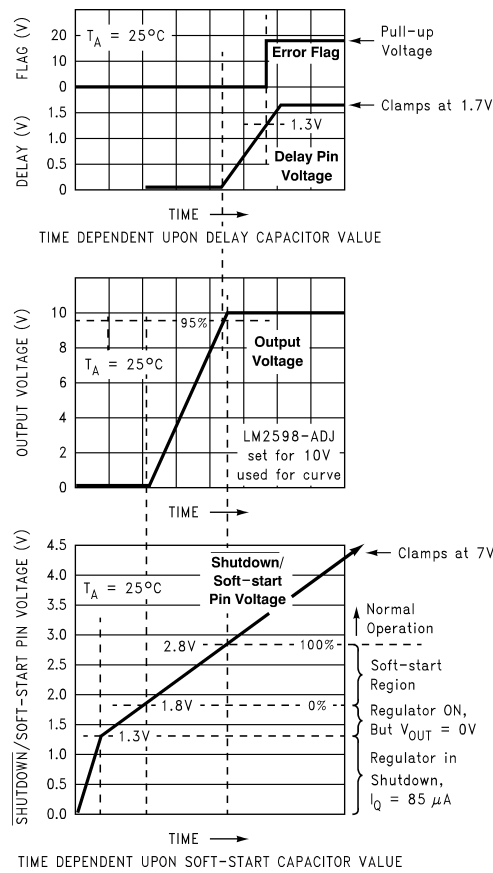
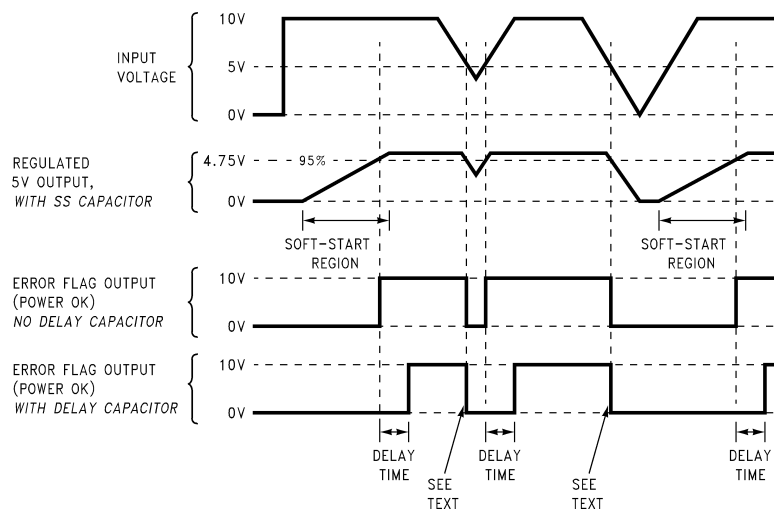

Figure 28. Soft-start, Delay, Error, Output
Figure 29. Timing Diagram for 5-V Output
A capacitor on this pin provides the regulator with a Soft-start feature (slow start-up). When the DC input voltage is first applied to the regulator, or when the Shutdown/Soft-start pin is allowed to go high, a constant current (approximately 5 μ A begins charging this capacitor). As the capacitor voltage rises, the regulator goes through four operating regions (See the bottom curve in Figure 28).
3. Soft-start region: When the $\overline{SD/SS}$ pin voltage is between 1.8 V and 2.8 V at 25°C, the regulator is in a Soft-start condition. The switch (Pin 1) duty cycle initially starts out very low, with narrow pulses and gradually get wider as the capacitor $\overline{SD/SS}$ pin ramps up towards 2.8 V. As the duty cycle increases, the output voltage also increases at a controlled ramp up. See the center curve in Figure 28. The input supply current requirement also starts out at a low level for the narrow pulses and ramp up in a controlled manner. This is a very useful feature in some switcher topologies that require large start-up currents (such as the inverting configuration) which can load down the input power supply.
Note: The lower curve shown in Figure 28 shows the Soft-start region from 0% to 100%. This is not the duty cycle percentage, but the output voltage percentage. Also, the Soft-start voltage range has a negative temperature coefficient associated with it.
Provides delay for the error flag output. See the upper curve in Figure 28, and also refer to timing diagrams in Figure 29. A capacitor on this pin provides a time delay between the time the regulated output voltage (when it is increasing in value) reaches 95% of the nominal output voltage, and the time the error flag output goes high. A 3- μ A constant current from the delay pin charges the delay capacitor resulting in a voltage ramp. When this voltage reaches a threshold of approximately 1.3 V, the open collector error flag output (or power OK) goes high. This signal can be used to indicate that the regulated output has reached the correct voltage and has stabilized.